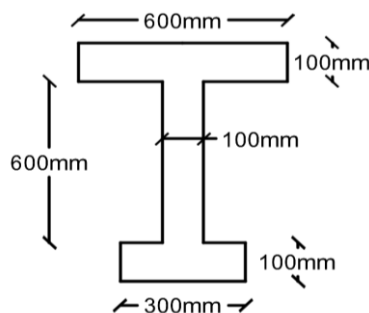

Figure-4
- (c) For the beam section shown in **Figure-4**, obtain the moment of inertia about x-x axis passing through the base of the section. **07**
- (c) For the beam section shown in **Figure-4**, obtain the location of centroid. 07